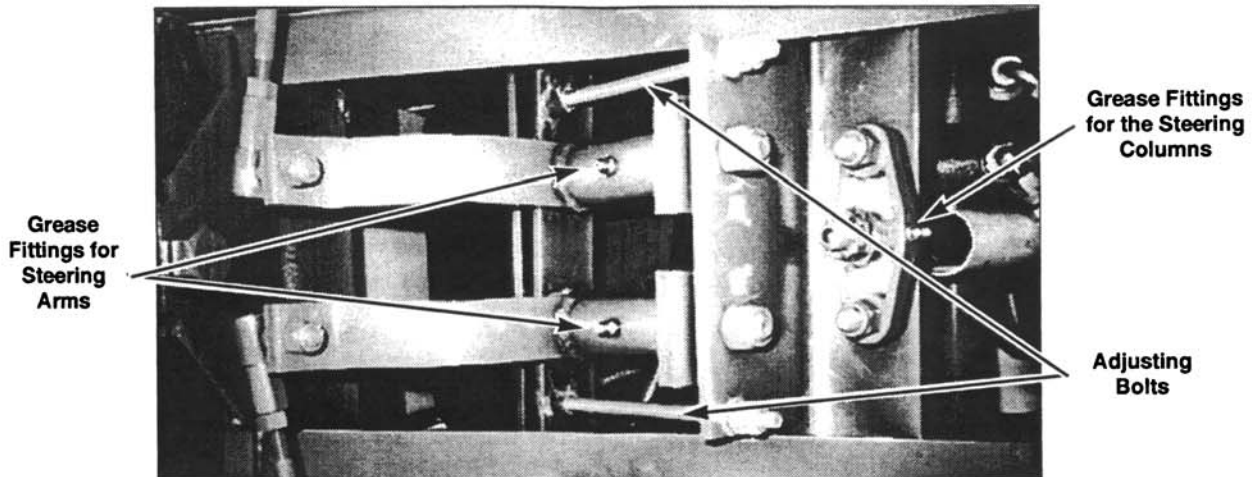

FIGURE 2
4. On the steering mechanism as shown in Figure 2.
1. Loosen the lock nuts on both adjusting bolts. See Figure 2.